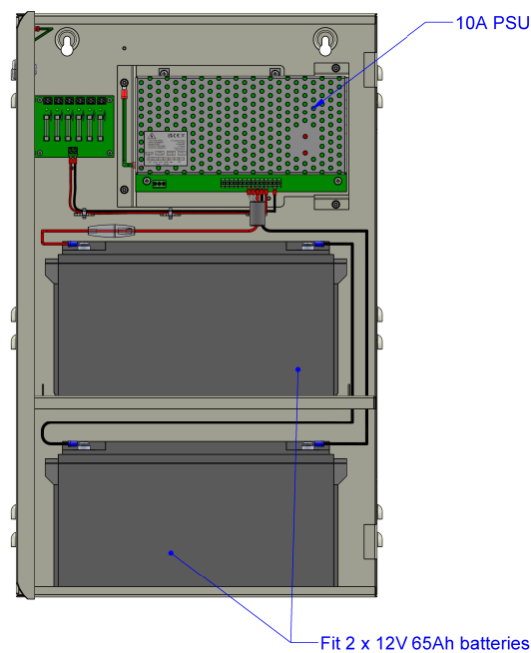

Figure 4 - Battery fitting and assembly
- 5) Connect the load (output) wiring as shown in Figure 4. Cable tie to saddle provided (adjacent to exit hole). **NOTE:** Cable runs to the load(s) must not exceed 30m.
- 13) Connect the free Positive and Negative terminals of the batteries to the PCB terminals Batt+ and Batt - using the cables provided. See Figures 4 & 5.